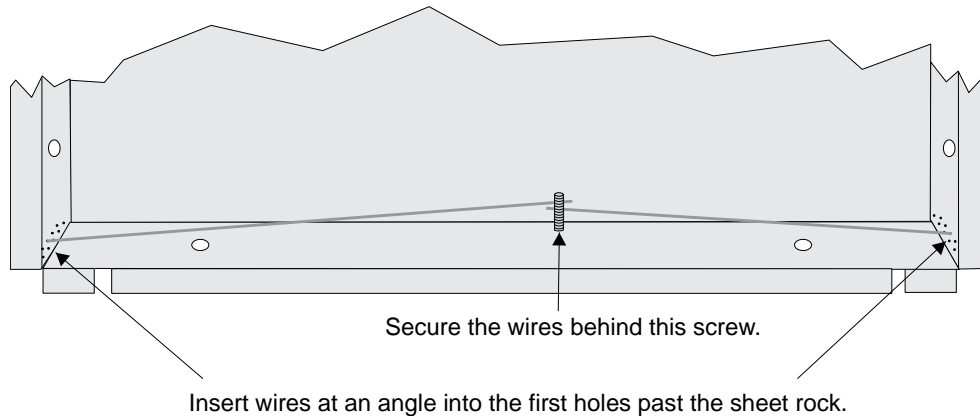

Figure 4-13 Flush Mounting the Back Box
3. Fit the annunciator back box into the hole and stabilize with mounting wires. Angle the mounting wires into the first hole past the sheet rock. Secure the wires behind the screws as shown in Figure 4-13. When all four wires are in place, the back box should fit snugly into the hole in the sheet rock.